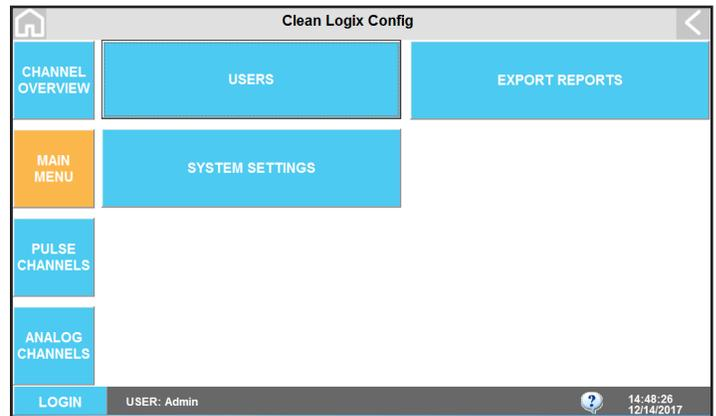

Figure 6.2: DR14 Main Menu
3. Select **USERS** [Figure 6.2]